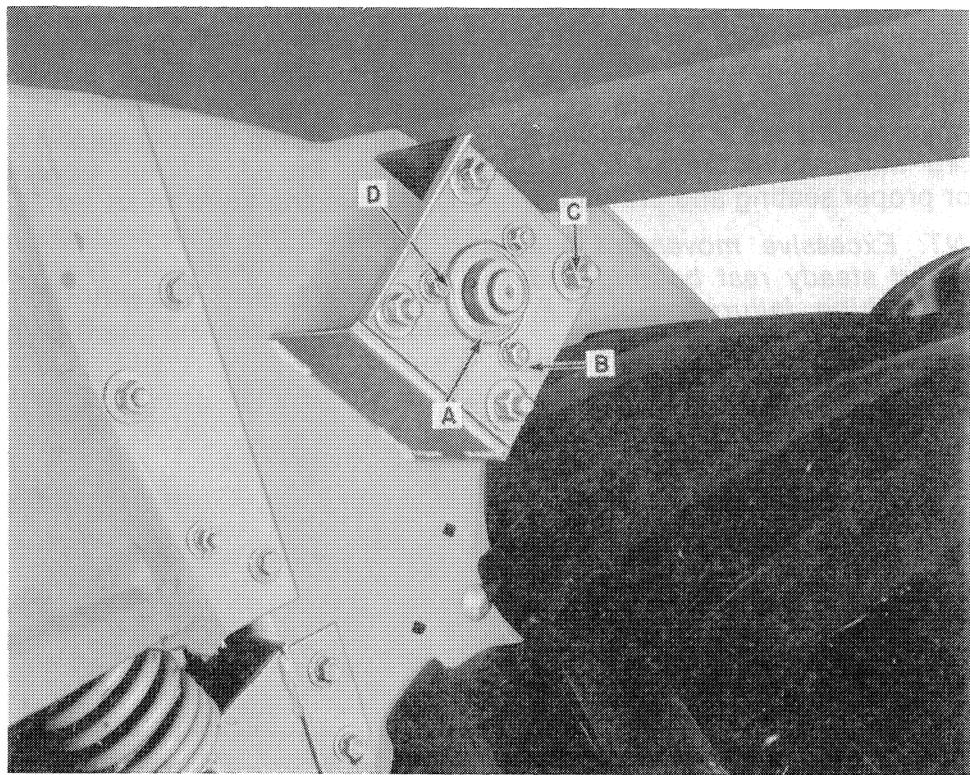

FIGURE 9
5. Remove locking collar, A, Figure 9, and the three bearing mounting bolts, B. Remove bolts, C, Figure 9, and remove the bearing and mounting plate.
2. Install the bearing on the output shaft and install bearing flange bolts, B, Figure 9, in the mounting plate. Install mounting plate bolts, C, Figure 9. Tighten bearing bolts, B, and then tighten bolts, C, last. This will eliminate a radial loading on the bearing if this sequence is followed.
NOTE: On units that have the overrunning clutch, shims must be installed between the long spacer and bearing at D, Figure 9, for a maximum end play of 1/16" (1.6 mm) on the complete clutch assembly. At the same time, the overrunning clutch must be free to rotate. Install locking collar, A, Figure 9, and tighten in the direction of rotation.